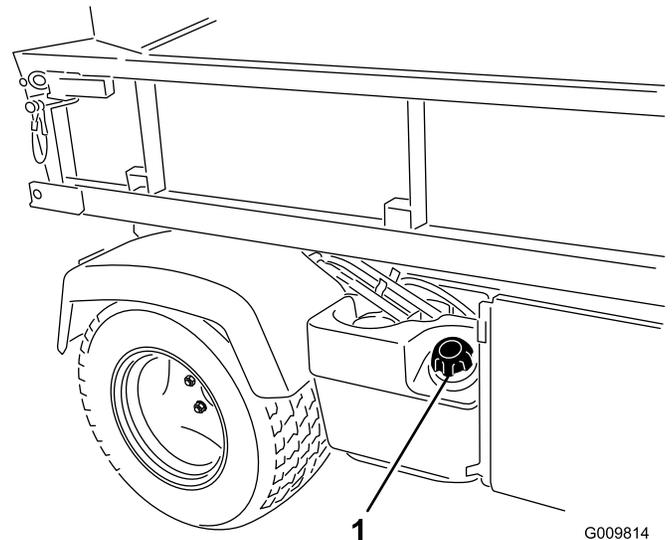

Figure 17
2. Remove the fuel tank cap (Figure 17).